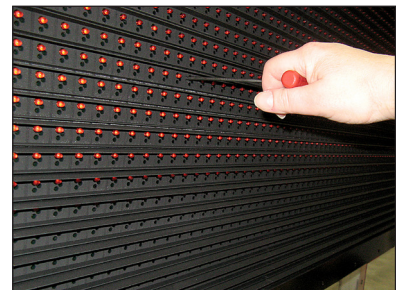

Figure 13: Remove Modules
3. Locate the latch fastener near the top-center of the module, refer to **Figure 13**. Turn the wrench a quarter turn counter-clockwise.